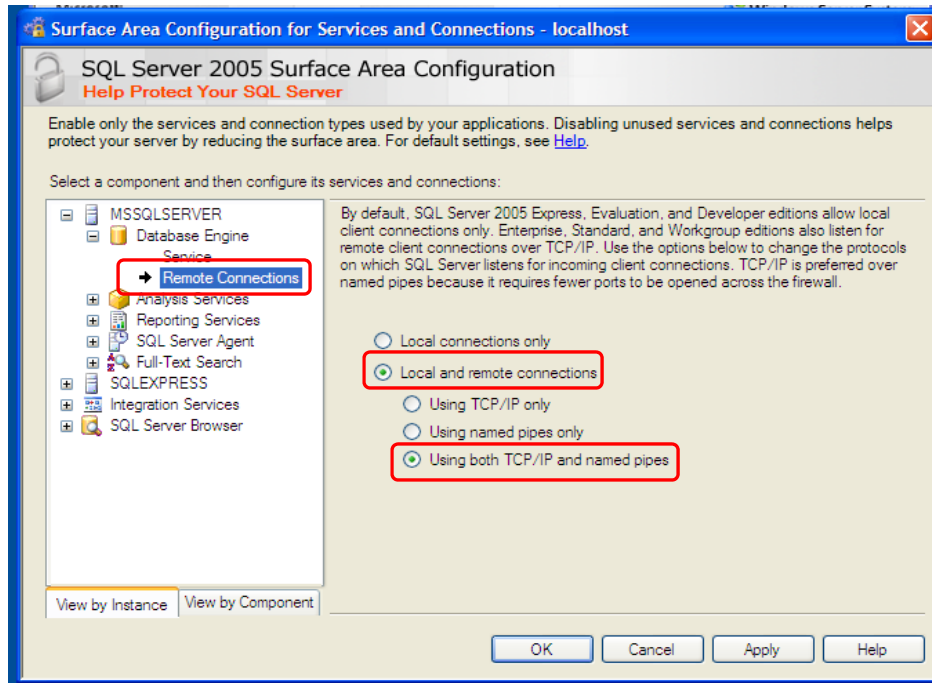

Figure III-7. Surface Area Configuration for Services and Connections – localhost Window
The Surface Area Configuration for Services and Connections – localhost window opens (Figure III-7).
7. In the navigation (left) pane, click on the Remote Connections item as shown in Figure III-7.